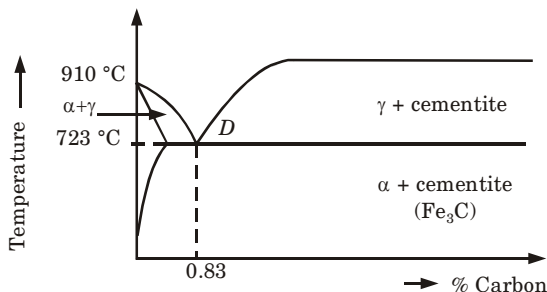

Fig. 9. Eutectoid phase diagram.
5. In the (Fig. 9), point *D* is called eutectoid point. The leftward region is called hypo-eutectoid (carbon percentage less than 0.8 %) and rightward region is called hyper-eutectoid (carbon percentage greater than 0.8 %).